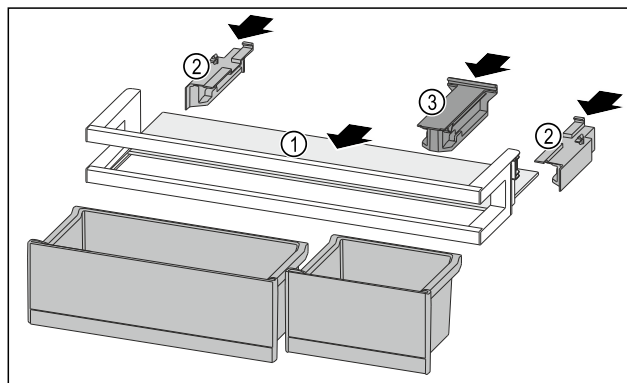

Fig. 135
- Push the shelf Fig. 135 (1) into the side recesses.
- Insert the side parts Fig. 135 (2).
- Insert the holding part Fig. 135 (3).